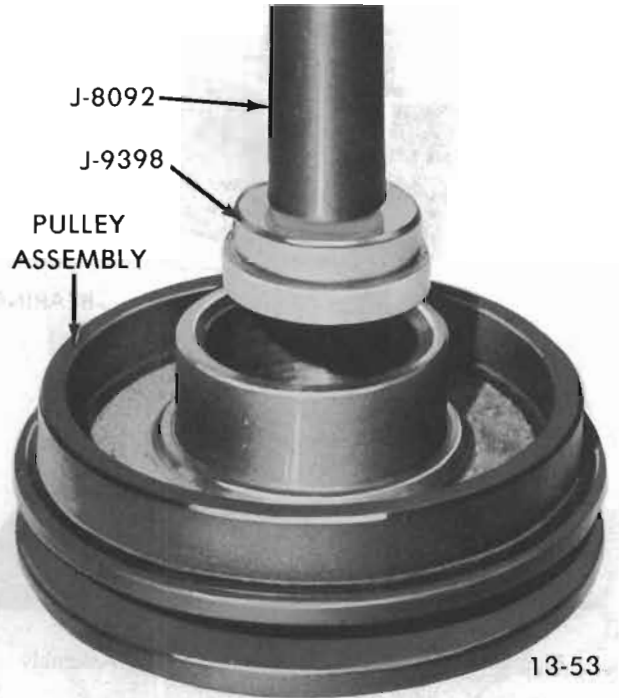

Figure 13-30 Removing Bearing from Pulley Assembly 13-32) with installer (J-9481) and handle (J-8092).
5. Drive out bearing (see Figure 13-30) by use of puller Pilot (J-9398) and Handle (J-8092).